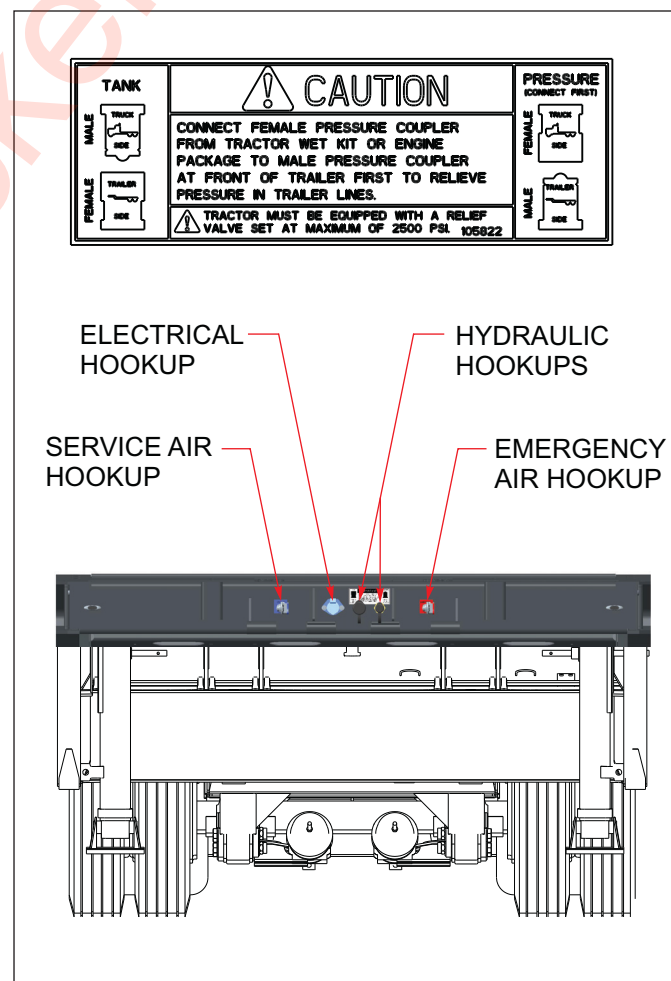

Figure 3-3: Service Hookups
3. Connect the service and emergency air hoses of the towing vehicle to their respective gladhand on the front of the semitrailer; red emergency line to the gladhand with the "EMERGENCY" tag, and the blue service line to the gladhand with the "SERVICE" tag (See Figure 3-3.) Chock the semitrailer wheels before activating the semitrailer air supply valve in the towing vehicle. Set the parking brakes.
1. Connect the towing vehicle 7-pole electrical plug to the electrical receptacle on the front of the semitrailer (See Figure 3-3.)